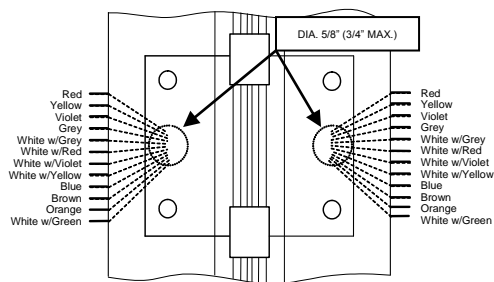

Fig. 2
8. Connect the system wires from the door to the appropriate leads of the door leaf side of the module (as described in the system wiring diagram). See Fig. 2. Insulate the bare end of any unused wires.
10. Position the door at 90 degrees to the frame and connect the system wires from the frame to the appropriate leads of the frame leaf side of the module. See Fig. 2. Insulate the bare end of any unused wires.